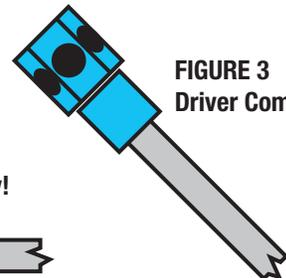

FIGURE 3
2. Mount nozzles in driver compartment as indicated in Figure 3.